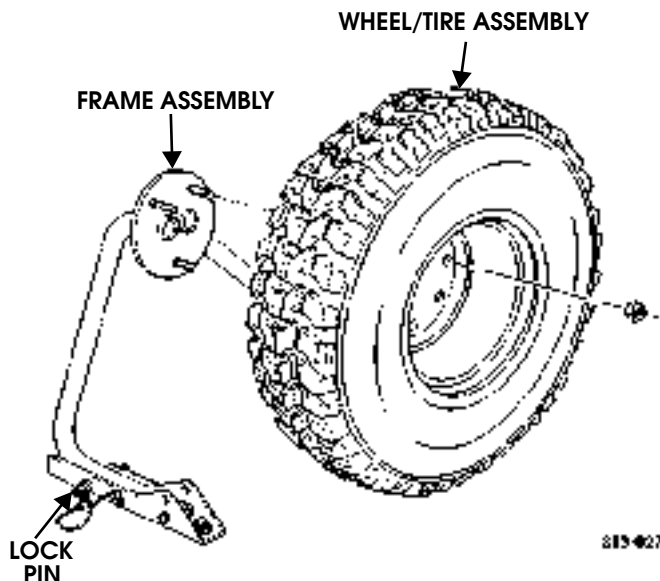

Figure 13-29: Cargo Bed-Mounted Spare Tire Carrier Appearance
1. Disconnect lock pins and raise frame assembly to upright position (Figure 13-29).
5. With carrier in the upright position, install tire on frame assembly with three lug nuts (Figure 13-29).